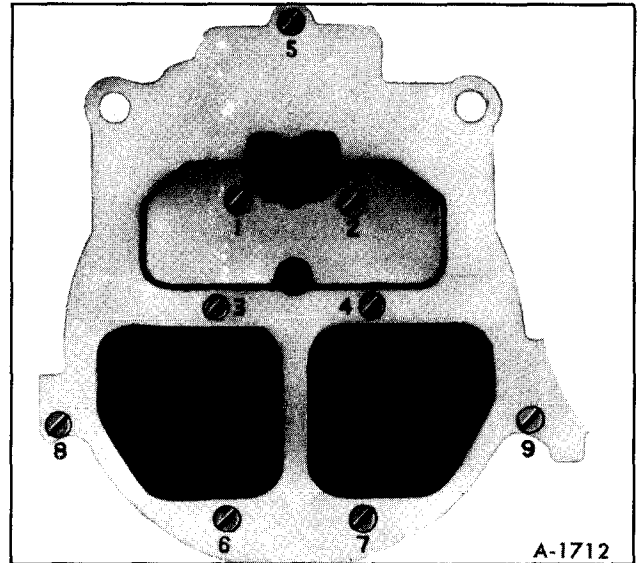

Figure 27—Air Horn Tightening Sequence
2. Install two long air horn screws, five short screws, and two countersunk screws into primary venturi area. All screws must be tightened evenly and securely. See Figure 27.